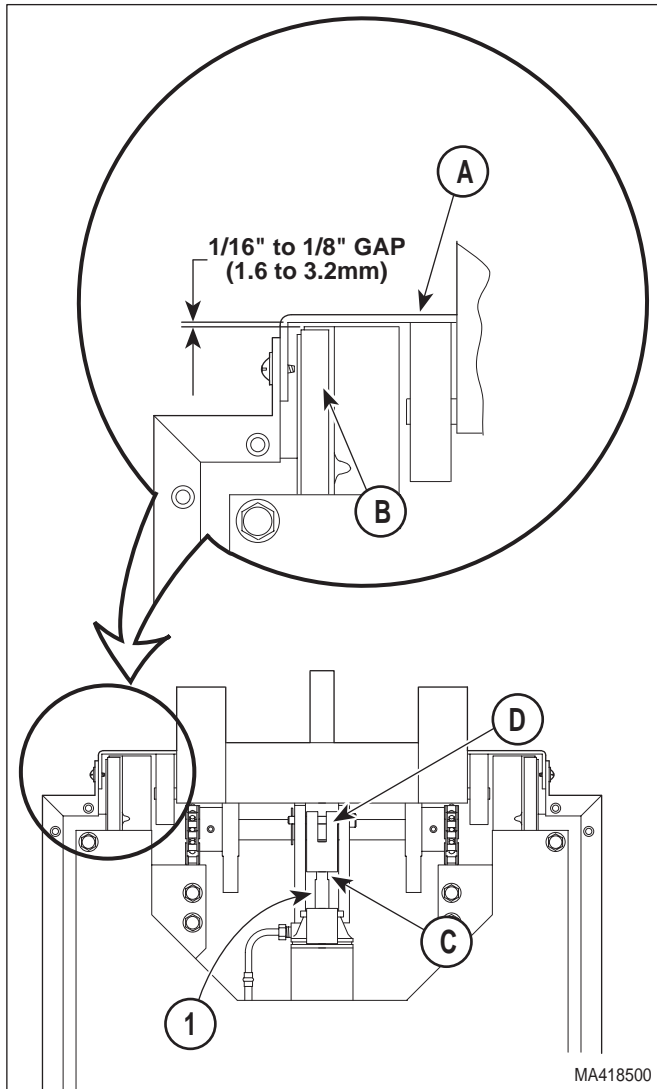

Figure 4-14. Base Cylinder Clevis Adjustment
- (8) If there is *not* a 1/16 to 1/8 inch (1.6 to 3.2 mm) gap between inner member weldment (A, Figure 4-14) and top of middle slide (B) when the BASE DOWN function is completely lowered perform steps 13 thru 15. If gap is correct when the BASE DOWN function is completely lowered, go to step 16.